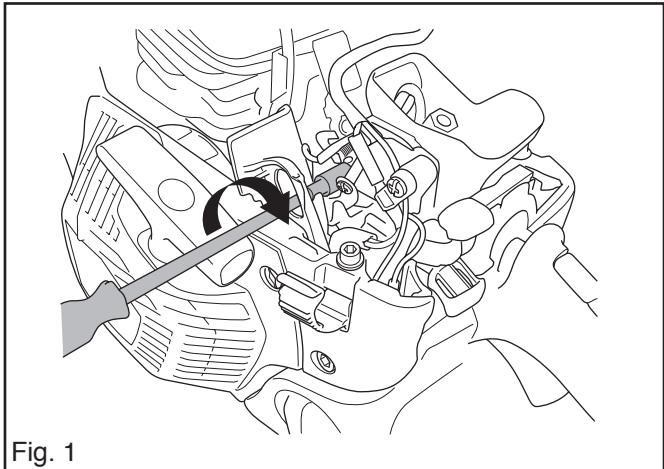
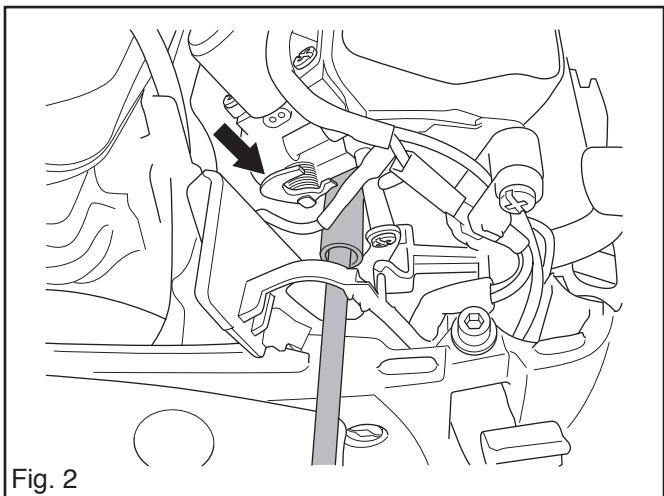

Fig. 1
Fig. 2
3. Screw the air screw  $\frac{1}{4}$  turn clockwise with screwdriver 530 03 55-60 (Fig. 1). Make sure the rotation angle of the throttle axle changes by looking at the movement of the lever arm (Fig. 2). Then replace the cylinder cover, warm up the motor and test the product again.